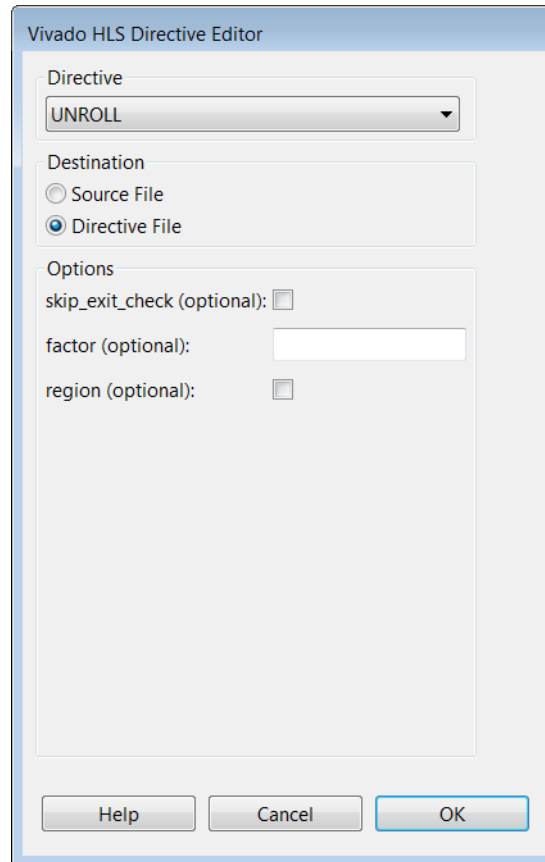

Figure 4-18: Directives Editor to Unroll For_Loop
- b. With the Directives Editor as shown in Figure 4-18, click **OK**.